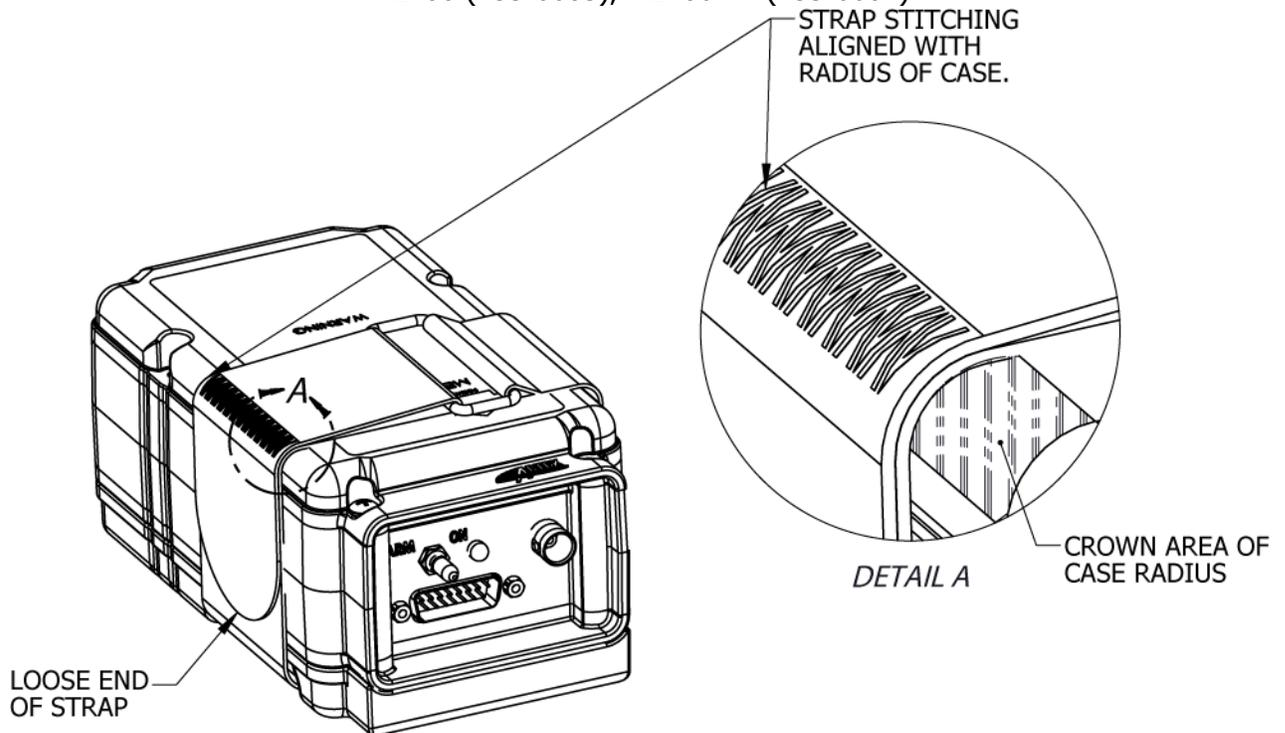

Figure 24 Velcro Strap Installation & Inspection
- 5) (Velcro Strap Installations Only) Tighten the Velcro strap around the ELT body (see Figure 24 Velcro Strap Installation & Inspection).